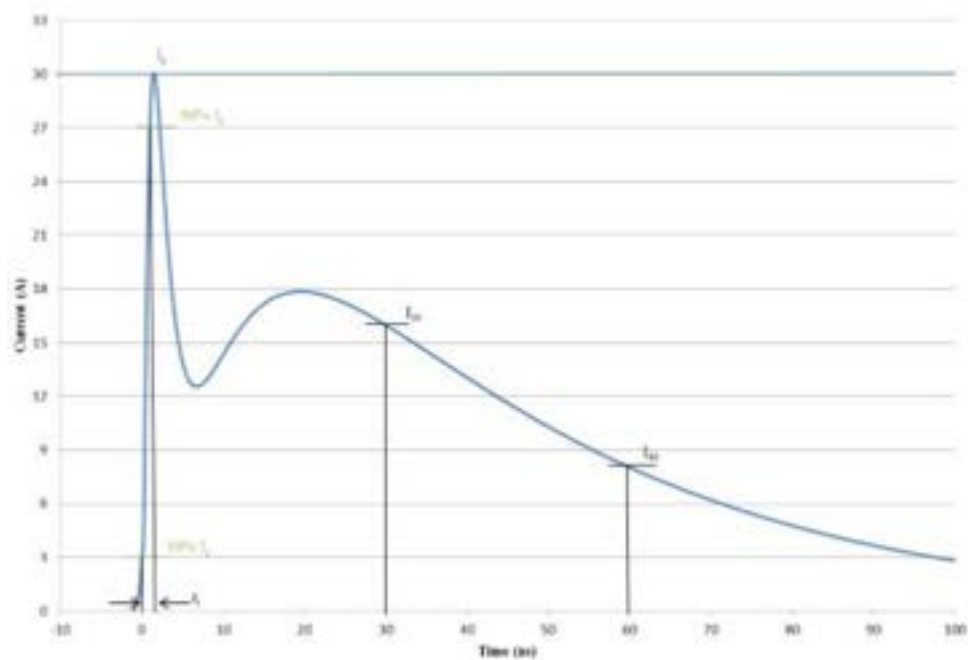

Figure 5.6-3: Ideal Contact Discharge Current Waveform at 8 kV
3. Place the tip of the ESD simulator in contact with the target, discharge it, and measure the waveform using the oscilloscope. Verify that each parameter in Table 5.6-2 and on Figure 5.6-3 is met.